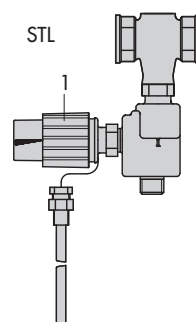

Fig. 1
### Versions (Figs. 1 to 4)
**Safety temperature limiters with Type 2439 K Safety Thermostat (Figs. 1 and 2)**